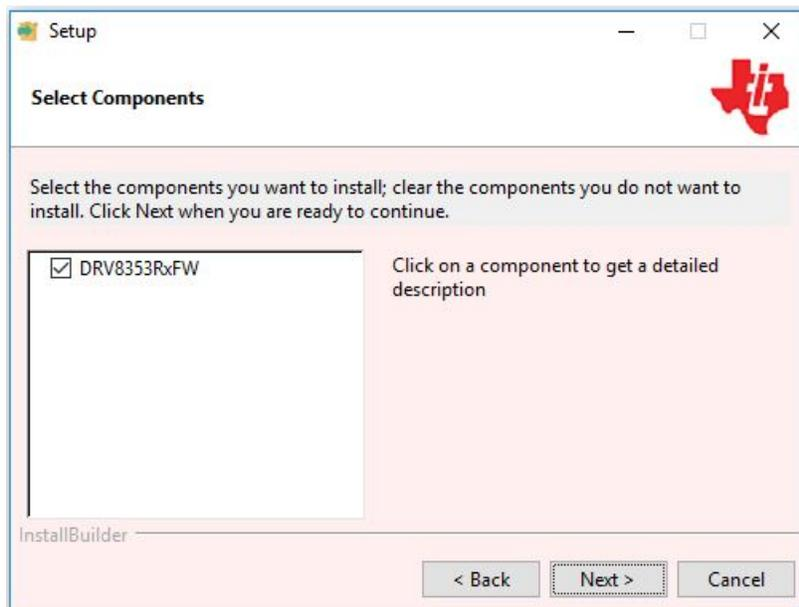

Figure 8. Component Selection
Step 4. Select the DRV8353Rx components to install (see Figure 8).